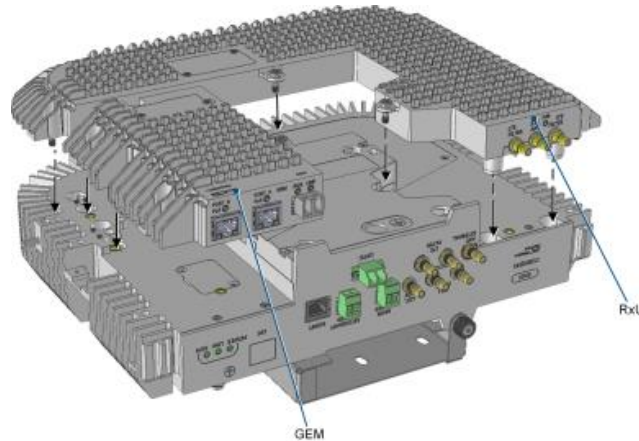

Figure 7-2. Plugging-in RxU2325 and GEM
- RxU2325 – plug-in RxU2325 into right side of the RAU5x as indicated in Figure 7-2 (area highlighted in green in inset) and close the two screws to secure in place.
- GEM - plug-in GEM into left side of the RAU5x as indicated in Figure 7-2 (area highlighted in blue in inset) and close the screw to secure in place.